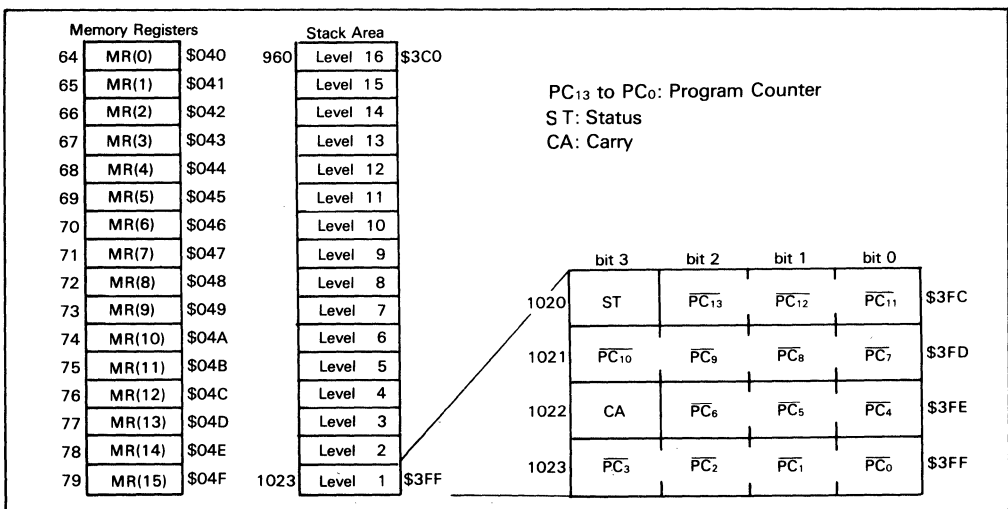

Figure 4. Configuration of Memory Register, Stack Area and Stack Position
Data Area (\$040 to \$2CF, \$100 to \$2CF; Bank 1): 16 digits of \$040 through \$04F are called memory registers (MR) and are accessible by LAMR and XMRA instructions (figure 4). 464 digits of \$100 through \$2CF is select the bank of location depending on the value of V register.
Stack Area (\$3C0 to \$3FF): Locations \$3C0 through \$3FF are reserved for LIFO stacks to save the contents of the program counter (PC), status (ST), and carry (CA) when subroutine call (CAL-instruction, CALL-instruction) and interrupts are serviced. This area can be used as a 16 nesting level stack in which one level requires 4 digits. Figure 4 shows the save condition. The program counter is restored by RTN and RTNI instructions. Status and carry are restored only by RTNI instruction. This area, when not used for a stack, is available as a data area.